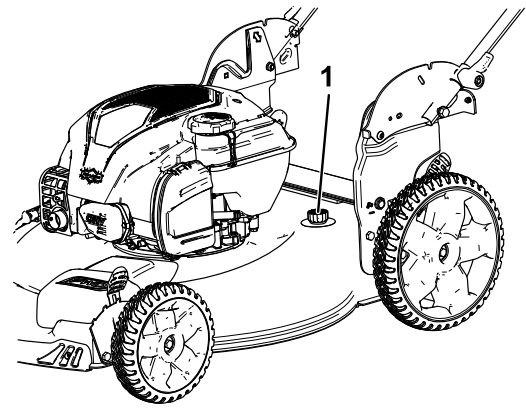

Figure 15
5. Attach a garden hose that is connected to a water supply to the washout port (Figure 15).